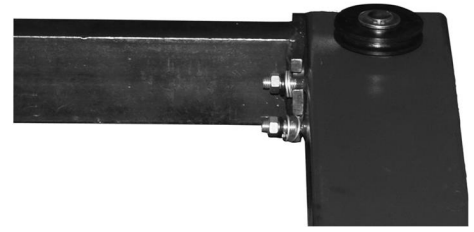

Fig. 9
3. Using a lifting device, raise the Overhead Beam assembly and connect to uprights at each end, using the bolts, nuts, and washers, as shown in **(Fig. 9)**.